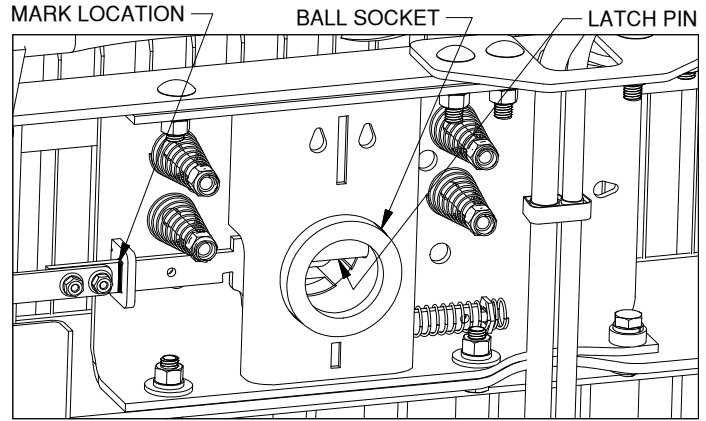

Figure G1: View looking up under bed.
7. **Check latch pin engagement.** When installed properly, the latch pin should pass through both sides of the ball socket. With the ball removed, push handle toward the rear of the truck until the handle retracts and the latch pin engages. Visually inspect the ball socket and verify that the latch pin has passed completely through both walls of the socket. Make a mark on the latching mechanism where indicated, in Figure G1, to show where the latching mechanism should be when the pin is correctly positioned in the ball socket. Retract the pin, replace the ball, and re-engage the pin. Check the marked location on the latching mechanism. If the mark is in the same location as when the mark was made, then the latch pin has gone completely through the ball socket.